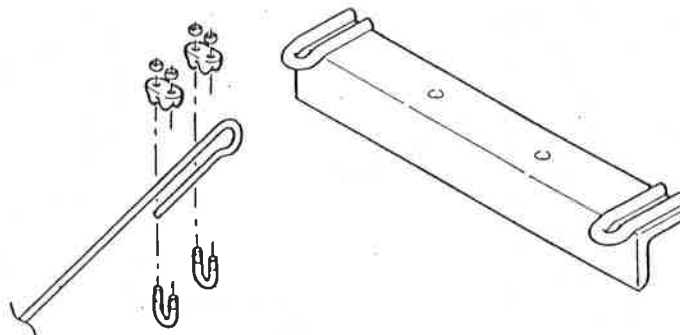

FIG. 34
Step 7. Attach truss cables as shown in Figure 31 to six upper cable anchors using two cable clamps per each cable. NOTE: Secure clamp with u-bolt against the loose end of the cable. See also Figure 34.